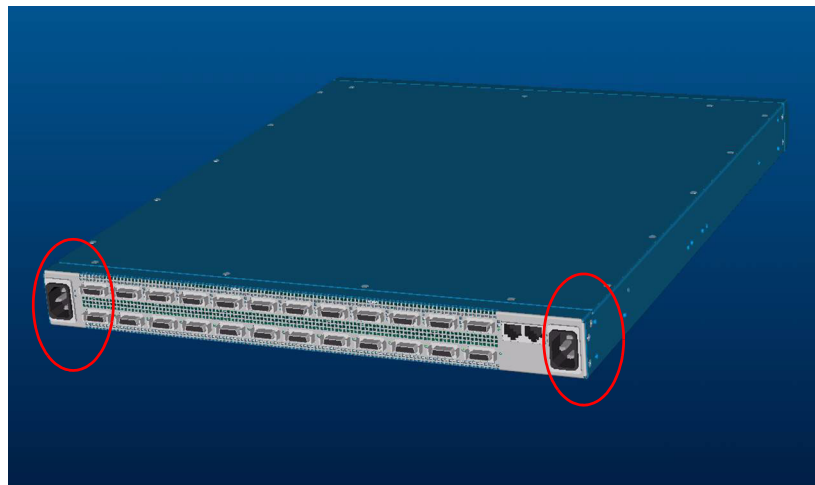

Figure 2-1: Power Jack Locations
3. Insert the power cables to the power jacks on the rear of the chassis. Refer to Figure 2-1 for power jack locations.